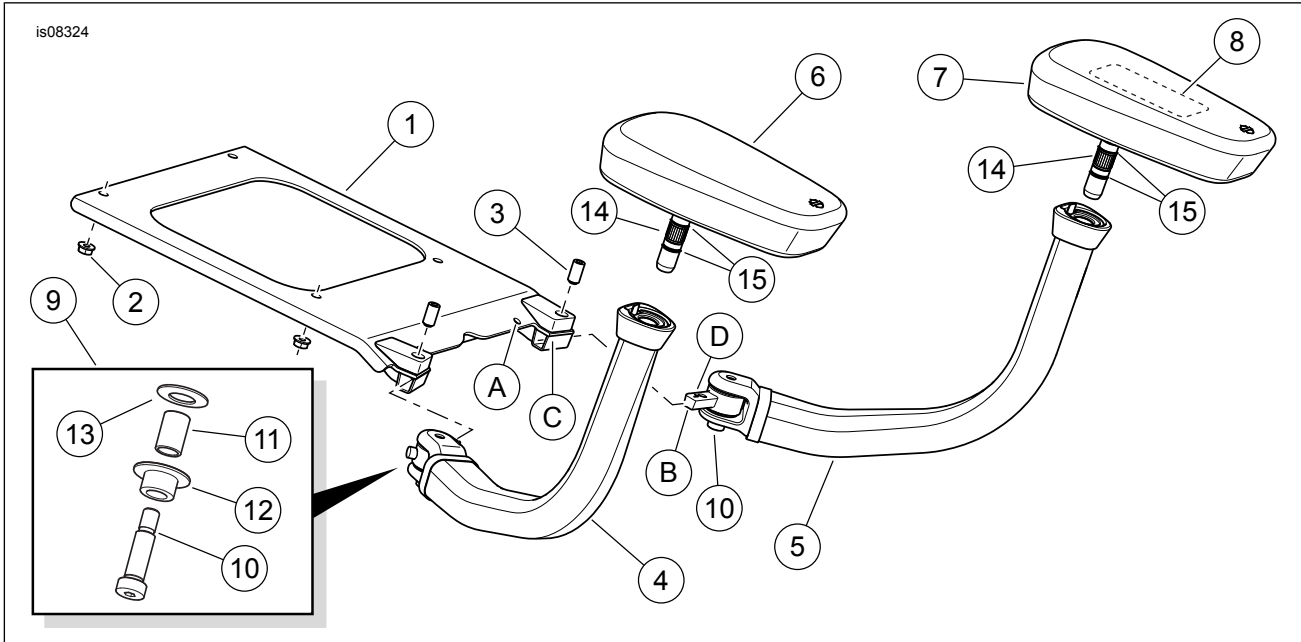

Figure 2. Service Parts, Touring Passenger Armrests
See Figure 2 and Table 1.
4. See Figure 2. Place the armrest support plate (1) onto the Tour-Pak support. Align the four mounting holes.
5. Install the Tour-Pak assembly in the rearmost position. Secure with the four **new** flange nuts (2) from the kit. Tighten to 10.8–13.6 N·m (96–120 **in-lbs**).